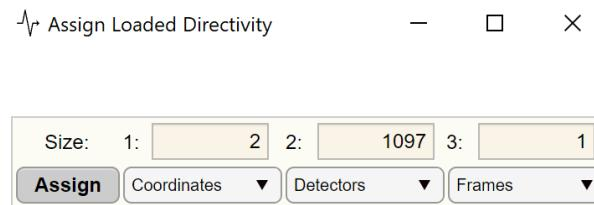

Figure 3-23: Interface to assign each dimension to the corresponding roles when users load focal points or unit vectors as directivity.
4. **Load focal points:** a 3D matrix can be loaded containing the focal point information about each detector according to any frame position. This matrix must contain the same number of detectors, frames, and coordinates (each dimension represents one of them) as the used detector locations in section 3.1.1 or section 3.1.2. There are two coordinates for 2D coordinate systems and three for 3D coordinate systems. A pop-up interface is then provided for assigning each dimension to the respective roles by selecting corresponding options from the dropdown menus (Figure 3-23).
5. **Load unit vectors:** a 3D matrix can be loaded containing the unit vector information about each detector according to any frame position. This matrix must contain the same number of detectors, frames, and coordinates (each dimension represents one of them) as the used detector locations in section 3.1.1 or section 3.1.2. There are two coordinates for 2D coordinate systems and three for 3D coordinate systems. A pop-up interface is then provided for assigning each dimension to the respective roles by selecting corresponding options from the dropdown menus (Figure 3-23).